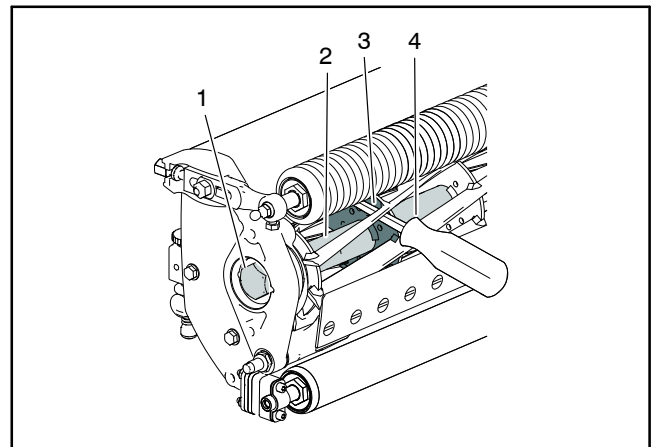

Figure 27
B. Insert a long-handled pry bar (3/8 x 12 inch with screwdriver handle recommended) through the bottom of the cutting unit. The pry bar should pass between the top of the reel shaft and the backs of the reel blades so that the reel will not move (Fig. 27).